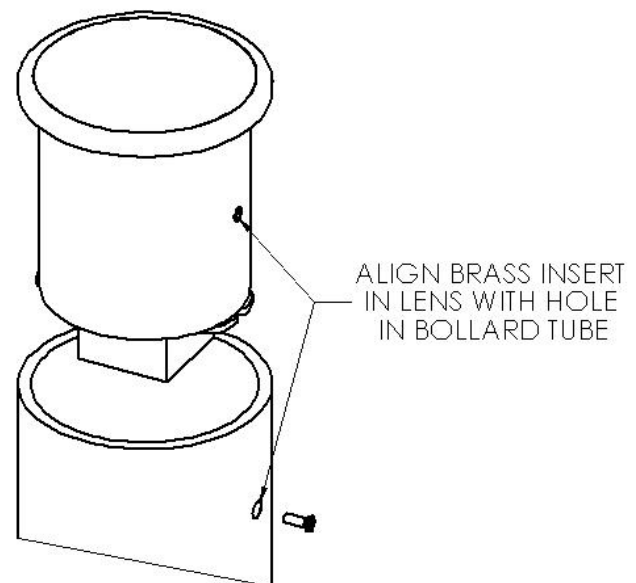

Figure 5: LED Lens Assembly Installation
6. Insert the lens and LED assembly into the top of the bollard tube and align the brass thread inserts in the side of lens with the two small holes near the top of the bollard tube (See Figure 5).
7. Insert the two 8-32 flat head screws into the threaded inserts through the holes in the bollard tube and gently tighten (See Figure 5).